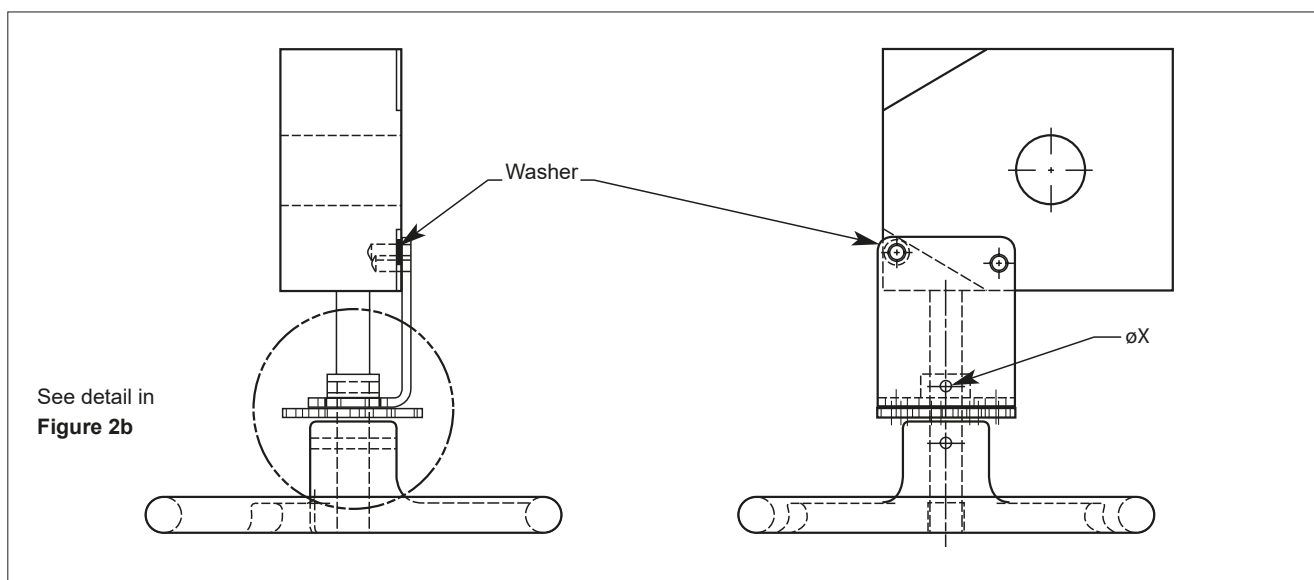

Figure 2a. Padlock Flange
1. Cycle actuator to fully closed position (turning counter-clockwise) so that handwheel pinhole is as shown in (**Figure 2a**). Remove handwheel from gear shaft (if necessary) by removing spring pin.
3. Place bracket onto valve shaft. Insert washer between bracket and actuator cover bolt hole (**Figure 2a**) and insert fasteners removed in step 2. Center actuator shaft and hole in bracket and tighten bolts.